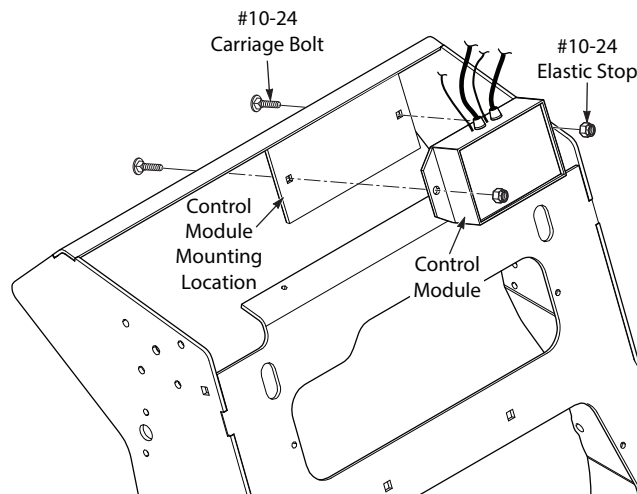

Figure 4. Install Nozzle Control Module
- Install the new nozzle control module supplied with this kit as shown in Figure 4, and secure using two (2) #10-24 x 1/2" carriage bolts and two (2) #10-24 lock nuts supplied with this kit. See Figure 4.